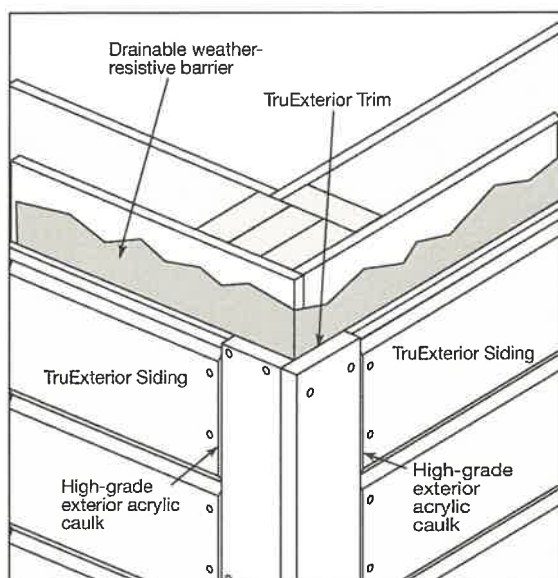

Fig. 9
- Secure each trim piece with 2 nails every 16 inches along the length of each piece of trim, staggering the nail pattern slightly to prevent opposing nails from contacting each other **(Fig. 9)**
- Butt each course of siding up to the corner trim and secure in place **(Fig. 9)**
- Seal the joint between the outside corner trim and the siding with high-grade exterior acrylic caulk **(Fig. 9)**